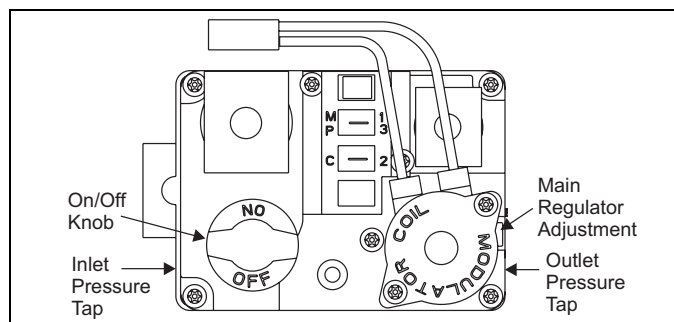

FIGURE 29: Gas Valve
Follow the appropriate section in the instructions below. Refer to Figure 29, "Gas Valve" for a drawing of the locations of the pressure ports on the gas valve.
4. Refer to Figure 29, "Gas Valve" for location of pressure regulator adjustment cap and adjustment screws on main gas valve.